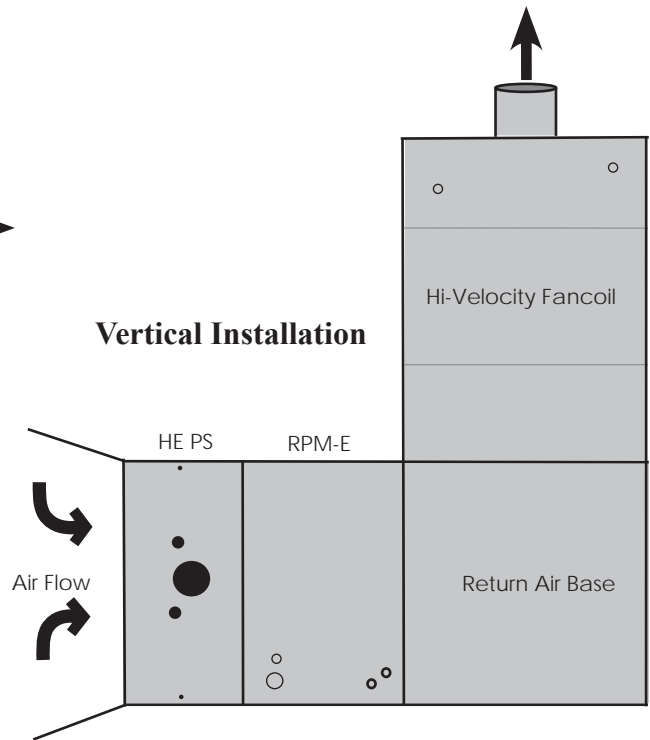
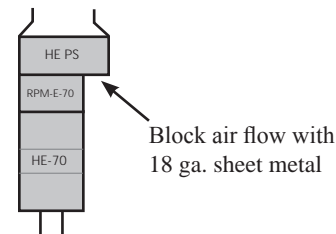

Fig. 8 TYPICAL INSTALLATIONS
Fig. 9
4. When installing the HEPS to an HE-50 or HE-70 fancoil, a transition should be made (**Fig. 8**) or simply block air flow with a piece of sheet metal (**Fig. 9**).